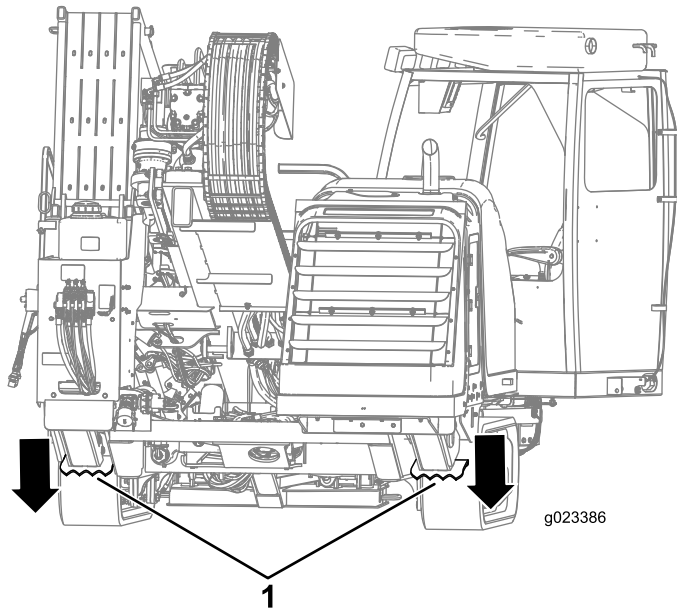

Figure 46
- Lower the rear stabilizers until they contact the ground firmly, or until the desired entry angle is achieved (Figure 46).